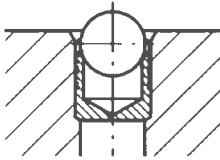

Fig. 1
- / With the ball facing out the KOENIG EXPANDER® is inserted in the counterbored hole. The top sleeve should not be above the surface of the base material (Fig. 1).